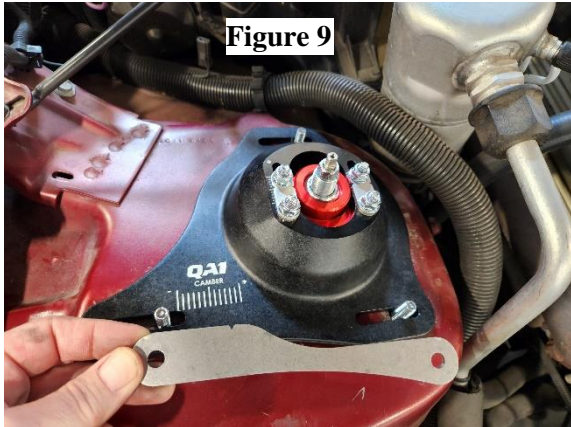

Figure 9
4. Install the black upper plate onto the three posts of the lower plate with the strut coming up through the bearing. Install the V-groove of the thin plate over the QA1 camber measurement and one thick 5/16" washer on the rear post. **(Figure 9 & 10)**